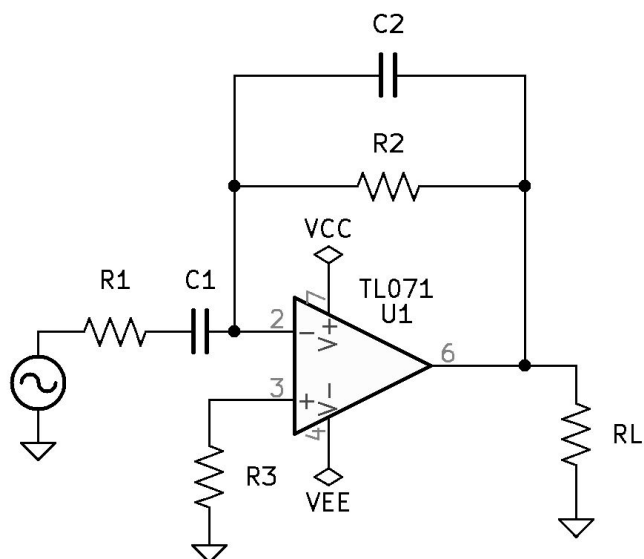

Figure 8.5: Band-Pass First-Order Active Filtering Circuit.
1. See Figure 8.5 *Band-Pass First-Order Active Filtering Circuit* on page 80.